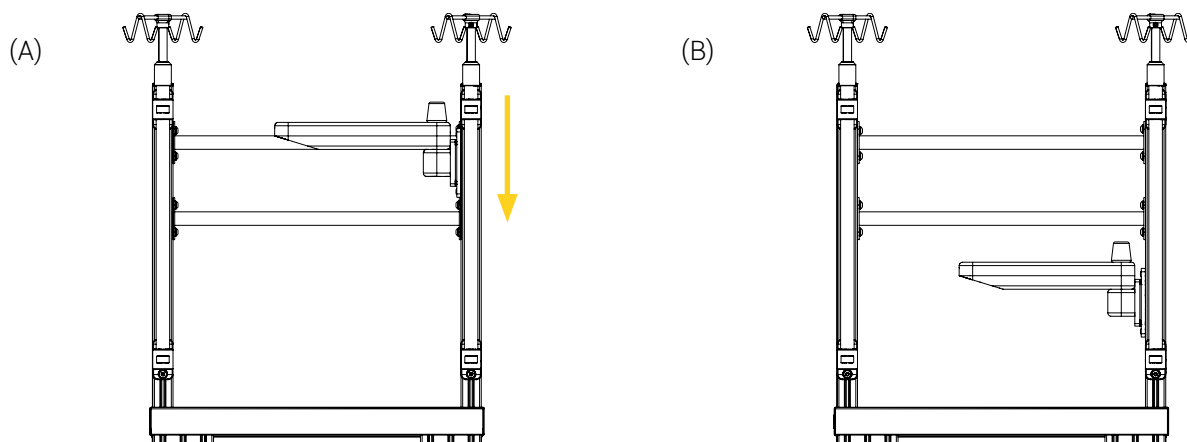

Figure 27: Height adjustment of the Draeger mounting system
8. If required, glide the Draeger mounting system up or down the vertical rail to adjust the height and conform to the specific positioning needs of the equipment (Figure 27).